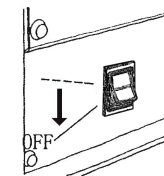

Figure 50
- 1.1 Check if the ignition switch is at ON position. (Figure 50)